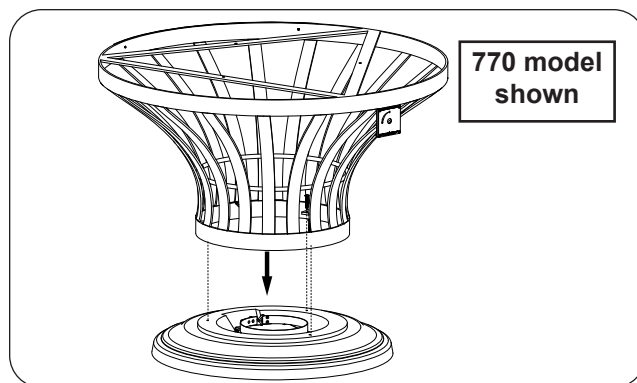

Fig. 29-1 Place base and fasten
1. **Carefully** remove the valve and burner assembly from the base, then **carefully** place the base bottom and base in an appropriate location (see Fig. 29-1, and refer back to the LOCATION section if needed).
2. Use a Phillips screwdriver and the supplied concrete screws (3) to fasten the base bottom to the base as shown in Fig. 29-1.